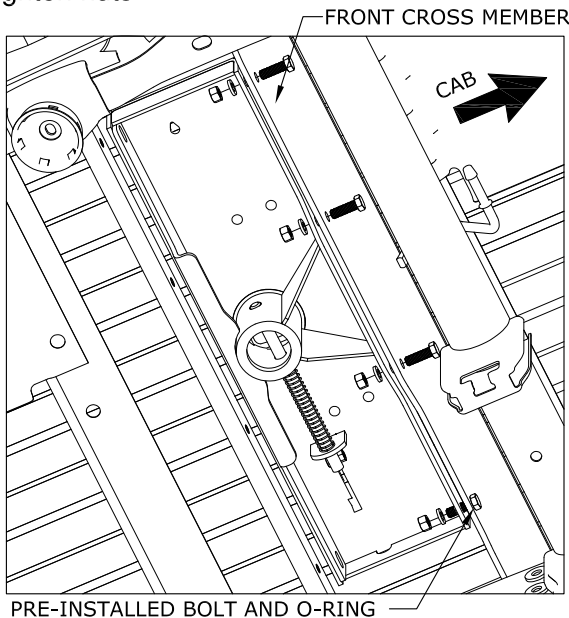

Figure B10: View under the center section looking from in front of the axle on the passenger side.
5. **Attach the front cross member to the center.** Slide the front cross member back against the center section so that the bolt installed previously in the front cross member goes into the center section hole directly across from it. Line up the rest of the holes and attach the two members with $\frac{1}{2}$ X $1\frac{1}{2}$ " long bolts, lock washers, and nuts as shown in Figure B10. Hand tighten nuts.